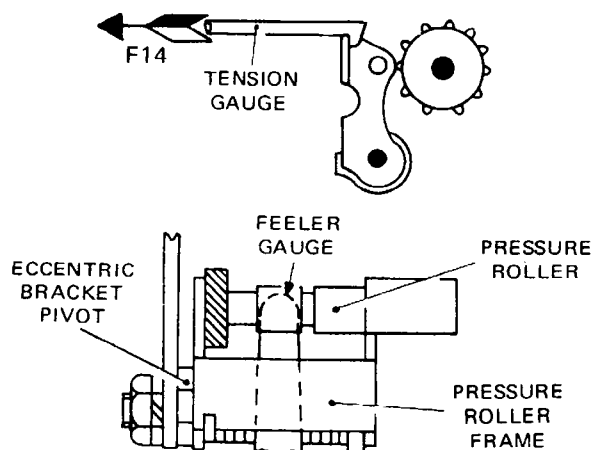

Fig. 4.127 PRESSURE ROLLER
- 138.1 By means of a tension gauge check that the force required to pull the pressure roller just clear (F14 of Fig. 4.127) is 750–1000 grams.